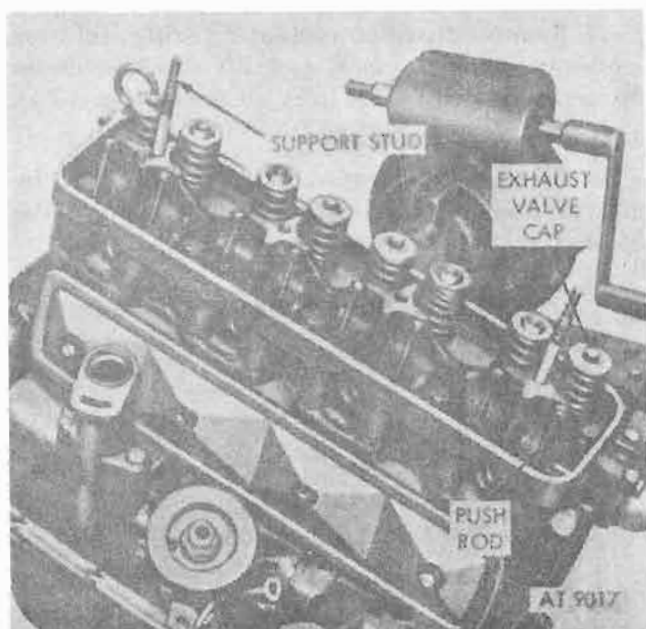

Figure 4-81. Valve rocker arm and shaft assembly removed.
d. *Valve Rocker Arm and Shaft Assembly.* Lift valve rocker arm assembly from rocker arm shaft support studs (fig. 4-81).
f. *Push Rods.* Remove eight valve push rods and four exhaust valve caps in sequence and identify them so they can be installed in their original position (fig. 4-81).